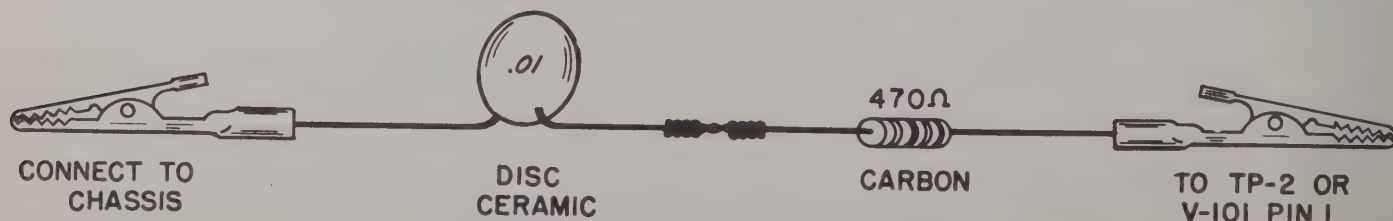

Fig. 82A. Test Circuit for I-F Amplifier Alignment
TEST CIRCUIT	Shown in Fig. 82A.
* NOTE: On chassis with the 1E1345 Pentode and 1E1376 Cascode tuners, temporarily connect the series resistor-capacitor combination shown in Fig. 82A to the tuner test point TP-2 when making this adjustment. On chassis with the 1E1380 Cascode tuner, hold the channel selector between channels when making this adjustment.
#NOTE: Temporarily connect the series resistor-capacitor combination shown in Fig. 82A to the grid (pin 1) of V-101 the 6CB6 first i-f amplifier when making this adjustment.